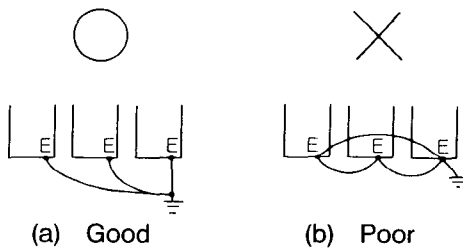
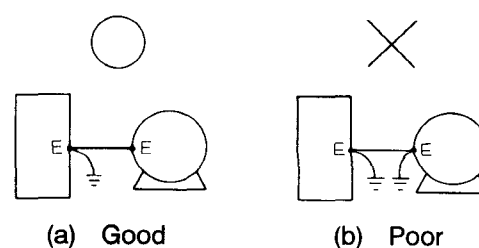

Fig. 4.14 Grounding of Three VS-626VM3 Units
Fig. 4.15 Grounding of Motor and VS-626VM3
- (3) Make a positive grounding using ground terminal E on the casing of VS-626VM3.
- Where several VS-626VM3 units are used side by side, all the units should preferably be grounded directly to the ground poles. However, connecting all the ground terminals of VS-626VM3 in parallel, and ground only one of VS-626VM3 to the ground pole is also permissible (Fig. 4.14 (a)). However, do not form a loop with the ground leads (Fig 4.15 (b)).